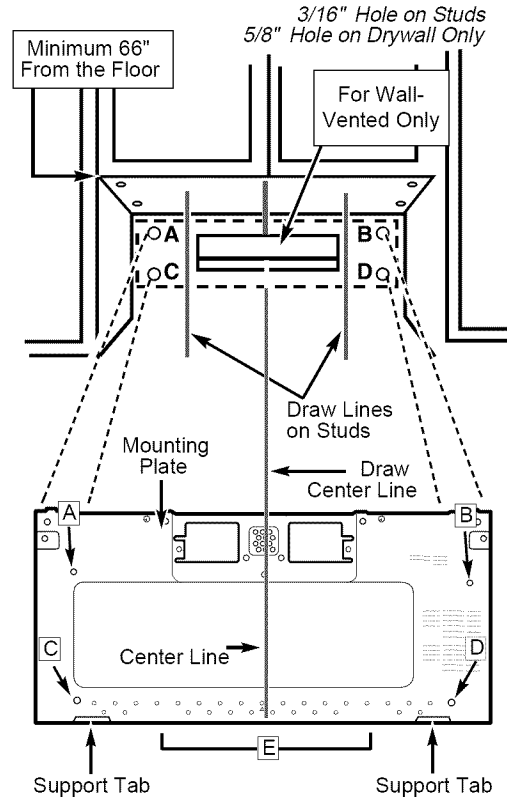
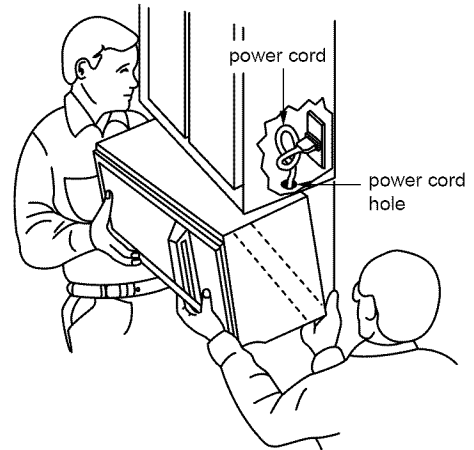

Figure 26
Figure 30
1. Carefully lift microwave oven and hang it on support tabs (See Figure 26 at the bottom of the mounting plate.) Reaching through upper cabinet, thread power supply cord through the power supply cord hole in the bottom of the upper cabinet. See Figure 30.